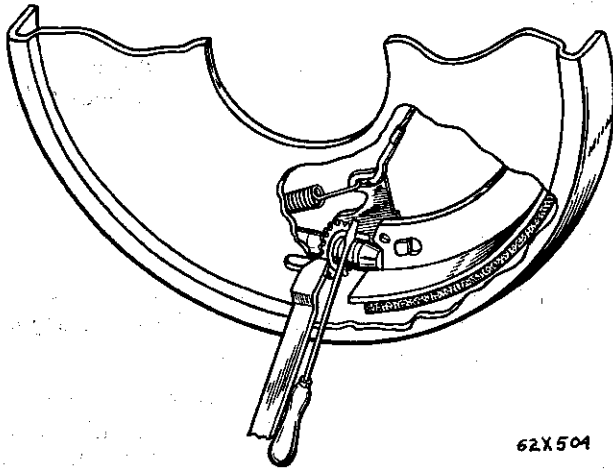

Fig. 3—Releasing Brake Adjustment
(1) Jack up the vehicle so all wheels are free to turn.
(2) Remove the rear adjusting hole cover from the backing plate on all of the brake supports of the vehicle.
(3) Be sure the parking brake lever is fully released, then back off the parking brake cable adjustment so there is slack in the cable.
(4) Insert the adjusting Tool C-3784, into the star wheel of the adjusting screw. Move the handle of the tool downward until a slight drag is felt when the road wheel is rotated.
(5) Insert a thin screw driver into the brake adjusting hole and push the adjusting lever out of engagement with the star wheel (Fig. 3), while
To aid in the brake drum removal loosen the brake adjuster first, as shown in Figure 3.